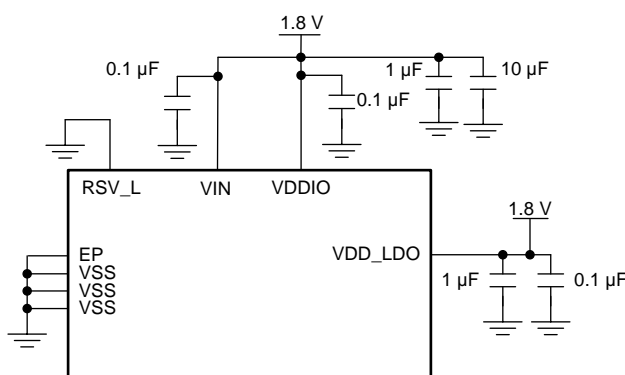

图 25. Single 1.8 V Supply Mode - Not Compatible with LMH1219
- **Single 1.8 V Supply Mode:** This mode provides the lowest power consumption. In this mode, 1.8 V is connected to VIN, VDD\_LDO and VDDIO. RSV\_L is tied to VSS. In this mode, SPI is supported, but SMBus serial interface is not. *In Single 1.8 V Supply Mode, the LMH0324 is not drop-in compatible with the LMH1219.* See Figure 25 for more details.